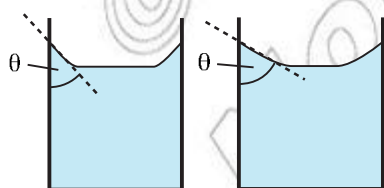

Figure 8.20 Contact angles
- The contact angle is the angle the tangent to the surface makes with the solid surface, as shown in Figure 8.20.